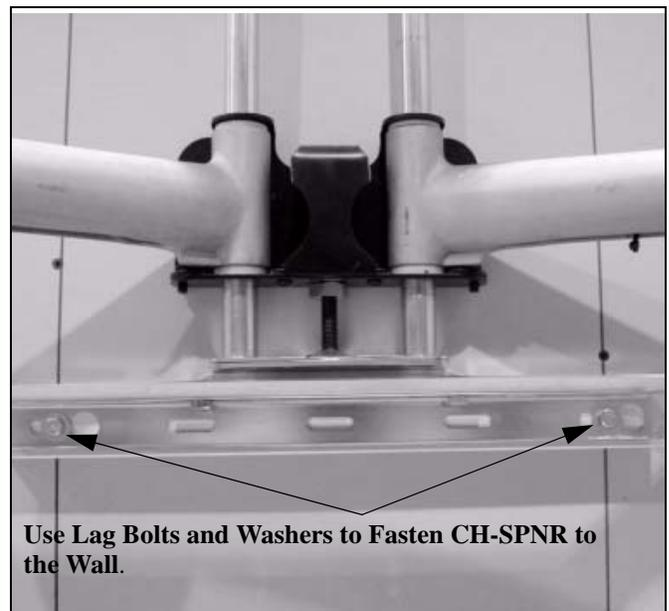

Figure 3
3. Install two 5/16" x 2-1/2" lag bolts (50) and two 5/16" washers (60) through CH-SPNR Bottom Bracket into the lower pilot holes. (See Figure 3)